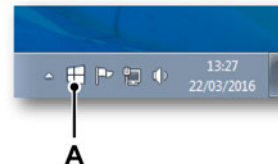

Figure G.68: Windows® 10 update icon
- 1 When checking for Windows® updates, one of the offered updates is the upgrade to Windows 10®. Once this update is installed, a new icon appears (see Figure G.68) in the Windows® taskbar.